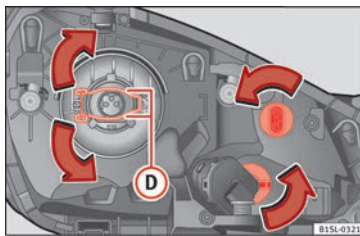

Fig. 85 Left headlight
3. Press the retaining clip **»»»** Fig. 85 **D** downwards in the direction of the arrow, unclip sideways, and remove it.
6. Insert the bulb, return it to its position and insert the retaining clip **»»»** Fig. 85 **D**.